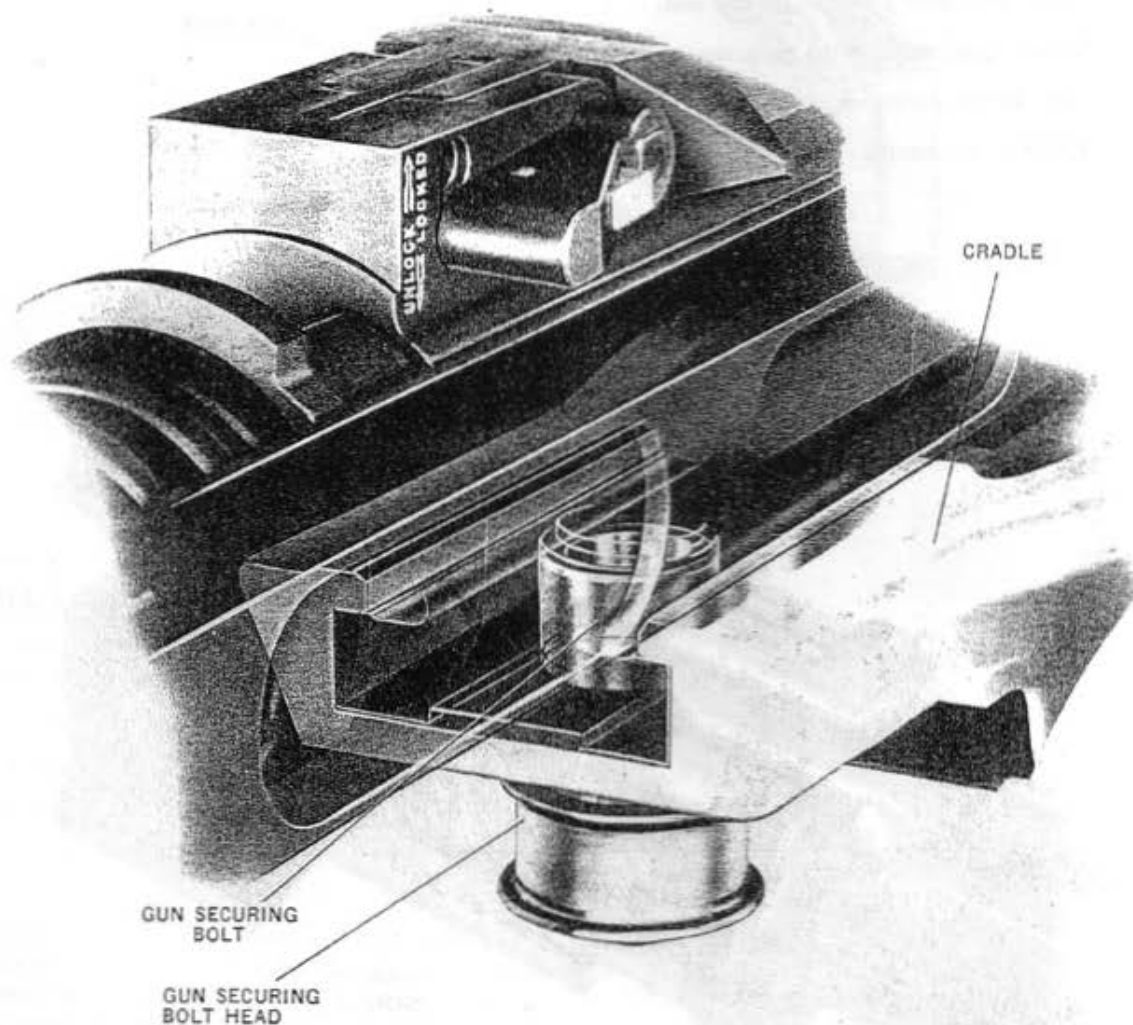

Figure 13—Gun Mounting Attachments
1. Two shoes that are a part of the breech casing (located at the front and rear) and fit into keyways in the cradle, Figure 13.
2. A gun securing bolt in the cradle which enters into a corresponding recess in the front shoe of the casing and takes the main fore and aft thrust on firing, Figure 13.